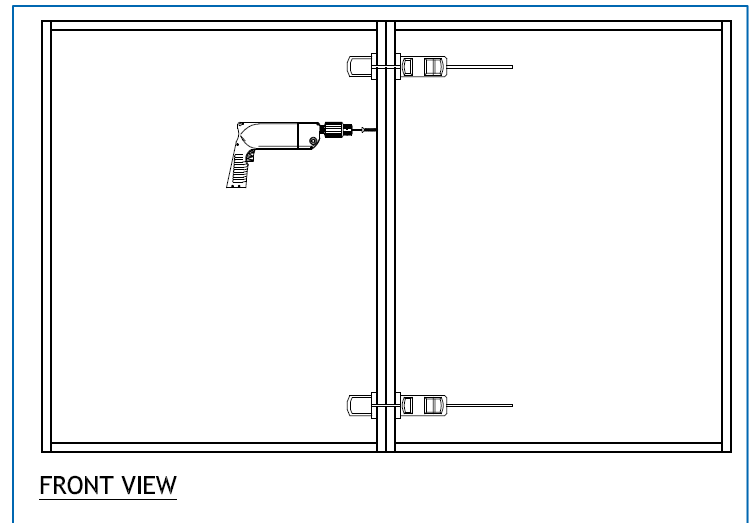

Figure 6
- Secure the cabinet to the adjacent cabinet and then the wall. *(figure 6)*